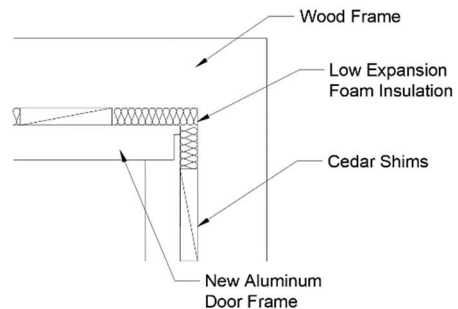

Figure 4
4.1 Important: Careful caulking will prevent leakage. Run a 1/2" bead of caulking down each side of the underside of the inside part of the sill. Caulk the full length of the joint of the sill and header at each of the jambs. Place a generous spot of caulking over each screw holes in the sill. Slip the assembled frame into the prepared opening making sure that the sill slopes down to the outside. Using the wooden shingles behind the frame at each of the screw holes and guided by a carpenter's level and square, square the jambs and header to the level sill. Use the #10 x 1 1/2" countersunk screw (#4) to fasten down the sill. If the sill is concrete, make 1/4" holes in the concrete at every installation screw hole using a 1/4" concrete drill bit. Insert the 10 x 12 x 1 (#5) anchor plugs and then use the 10 x 1 1/4" (#4) countersunk screws. Apply generous silicone sealant into sill installation holes, prior to fastening the #10 x 1 1/2" countersink screws. Make certain that the frame remains square until it is firmly fastened. Fill insulation firmly into any space between the aluminum frame and the wood opening frame to prevent drafts. See figure 4.